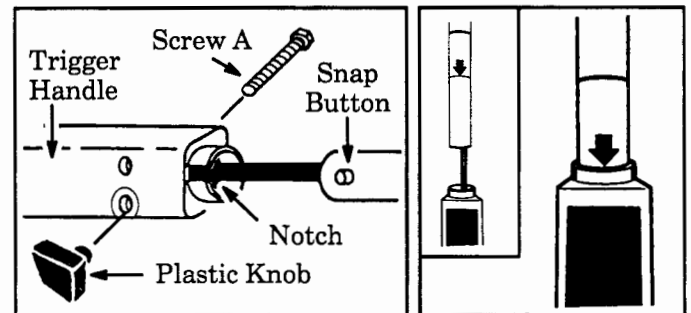

Figure 2
2. Align the snap button on the tube with the notch on the trigger handle. Figure 2. Slide the tube into the trigger handle until you hear the snap button click into position.
3. Install screw A in the hex recess and the plastic knob in the round recess on the trigger handle. Figure 2. Tighten knob just enough to hold it in place.